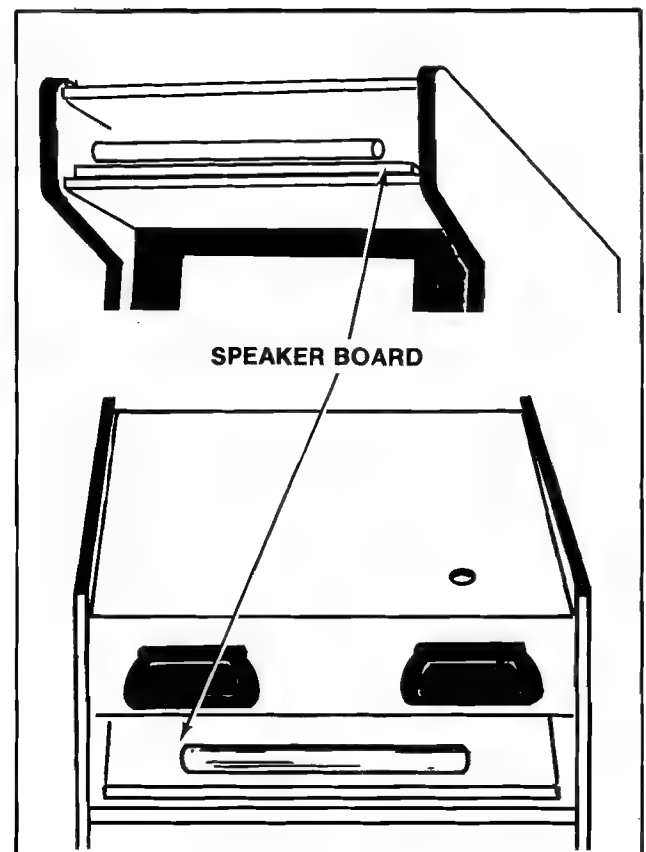

Figure 2-33 Servicing Attraction Panel Lighting - Upright
- ❑ Removing the light board assembly: See Figure 2-33